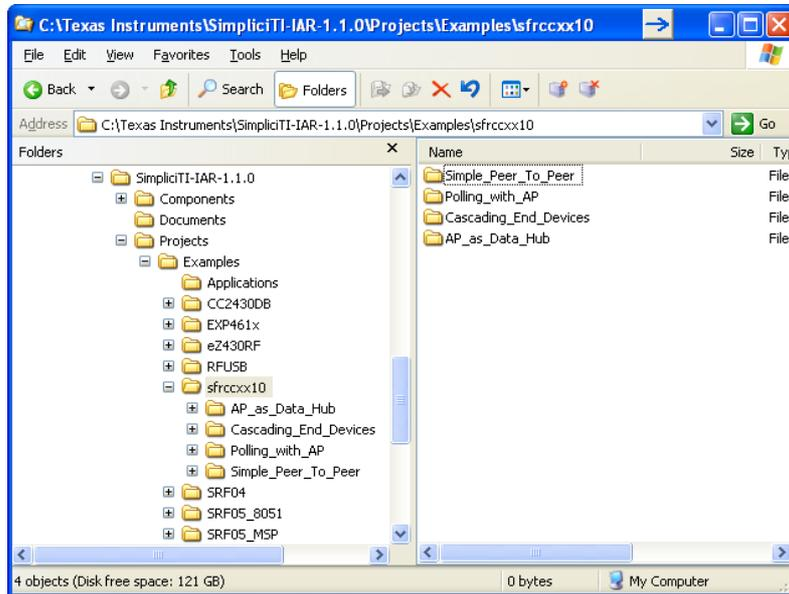

Figure 3. The srfccxx10 Folder Containing all the SimpliciTI Examples
- Under C:\Texas Instruments\SimpliciTI-IAR-1.1.0\Projects\Examples, take a copy of the SRF04 folder, paste it under the Examples folder, and name it srfccxx10 (see Figure 3). The examples in the SRF04 folder is written for the CC1110 and CC2510 radios and can easily be modified to work on the SmartRF CCxx10 Target Boards.